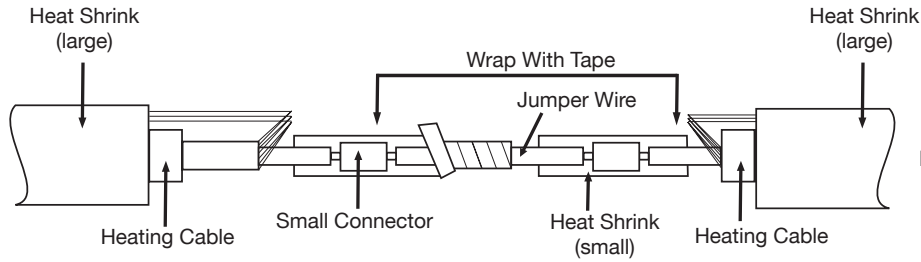

Figure 3
11. Wrap entire shrink tube areas with fiberglass tape. (see Figure 3)